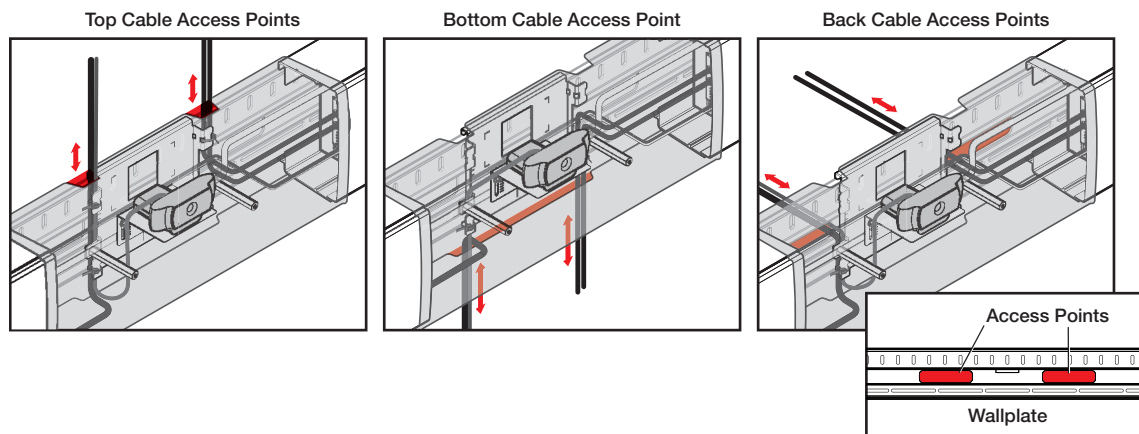
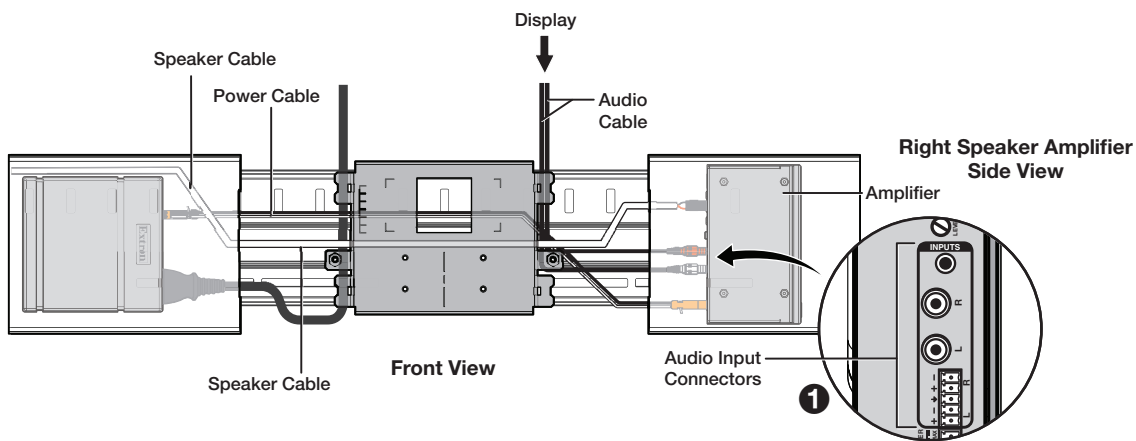

Figure 18. Power and Speaker Cable Routing
Figure 20. Routing Speaker Cables from the Display
1. Secure the power and speaker cables to the SB 33 A wiring access points as shown in figure 18, below.
3. Route the audio cable from the display to the audio input connectors of the power amplifier in the right speaker assembly (figure 20, ❶). See the cable access points illustration in figure 18 on page 10.